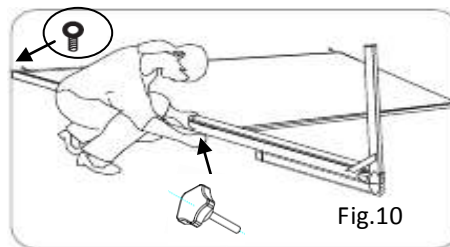

Fig.10
4. Insert the frame **legs (B)** into the openings located at the left and right bottom sides of the **folding frame (A)**. Secure them by fastening the **knob screw (E)** into the adjacent hole. Next, screw the **eyebolts (F)** into the openings located at the top of the frame (Fig.10).